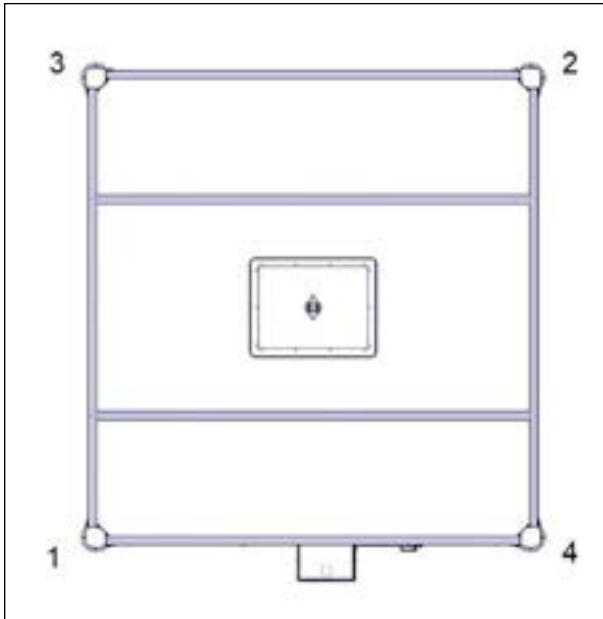

FIGURE 63: INSTALLATION PATTERN FOR THE OUTER CORNER BRACKETS (4)
25. Next steps show how to install the outer corner brackets (4). Figure 63 shows the installation pattern (four brackets, four corners). Install the first outer corner bracket on corner number 1 and then keep following the pattern for the remaining brackets.